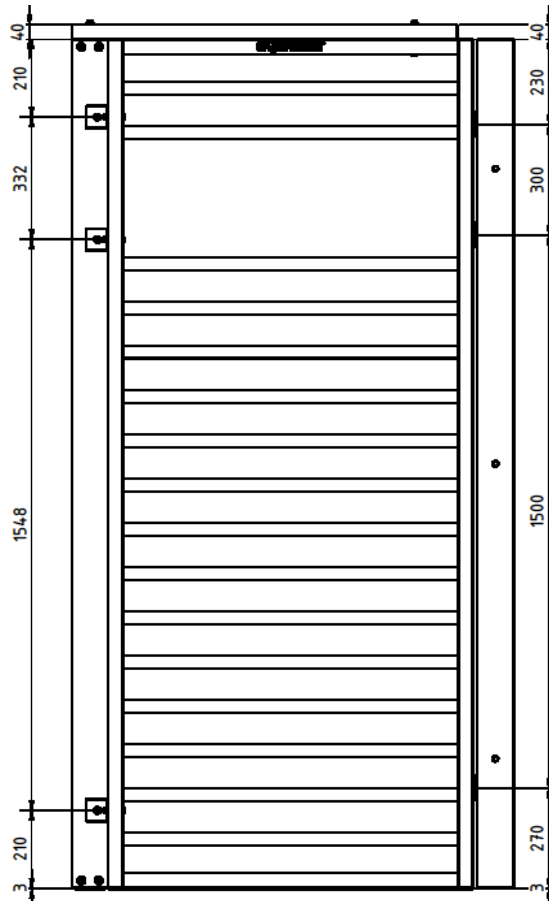

Figure 3: Drilling dimensions for the brackets (on the left) and hinges (on the right)
Drill six 9 mm holes into the sides of both frames for the brackets (see figure 3). Then, connect the frames with the three brackets ⑧, coach bolts ⑪, washers ⑮ and lock nuts ⑬ (using the pre-drilled holes).